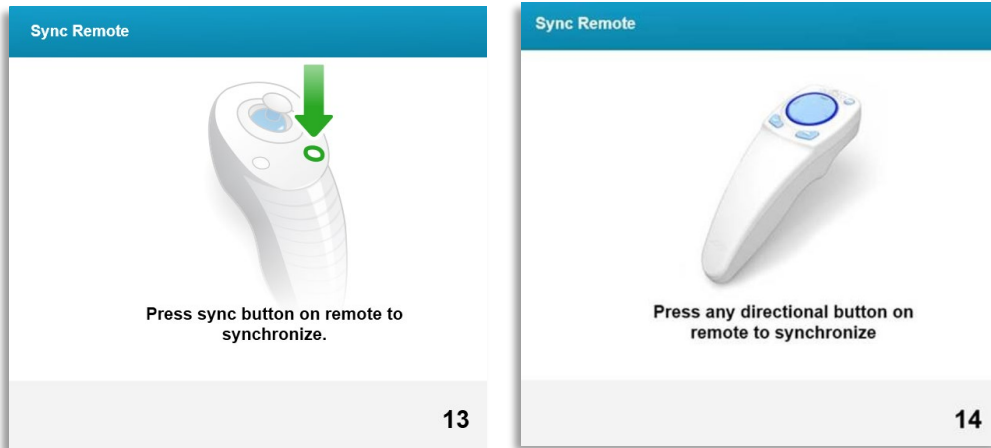

Figure 3-16. Sync Remote
- o If the user has the treatment card inserted while programming treatment parameters that are outside the allowable value(s) controlled by the RFID card, the following message will appear and "Perform treatment" will unable to be selected as shown in Figure 3-16.
- o The Sync alignment remote message will be visible on the screen for 15 seconds as shown in Figure 3-16.